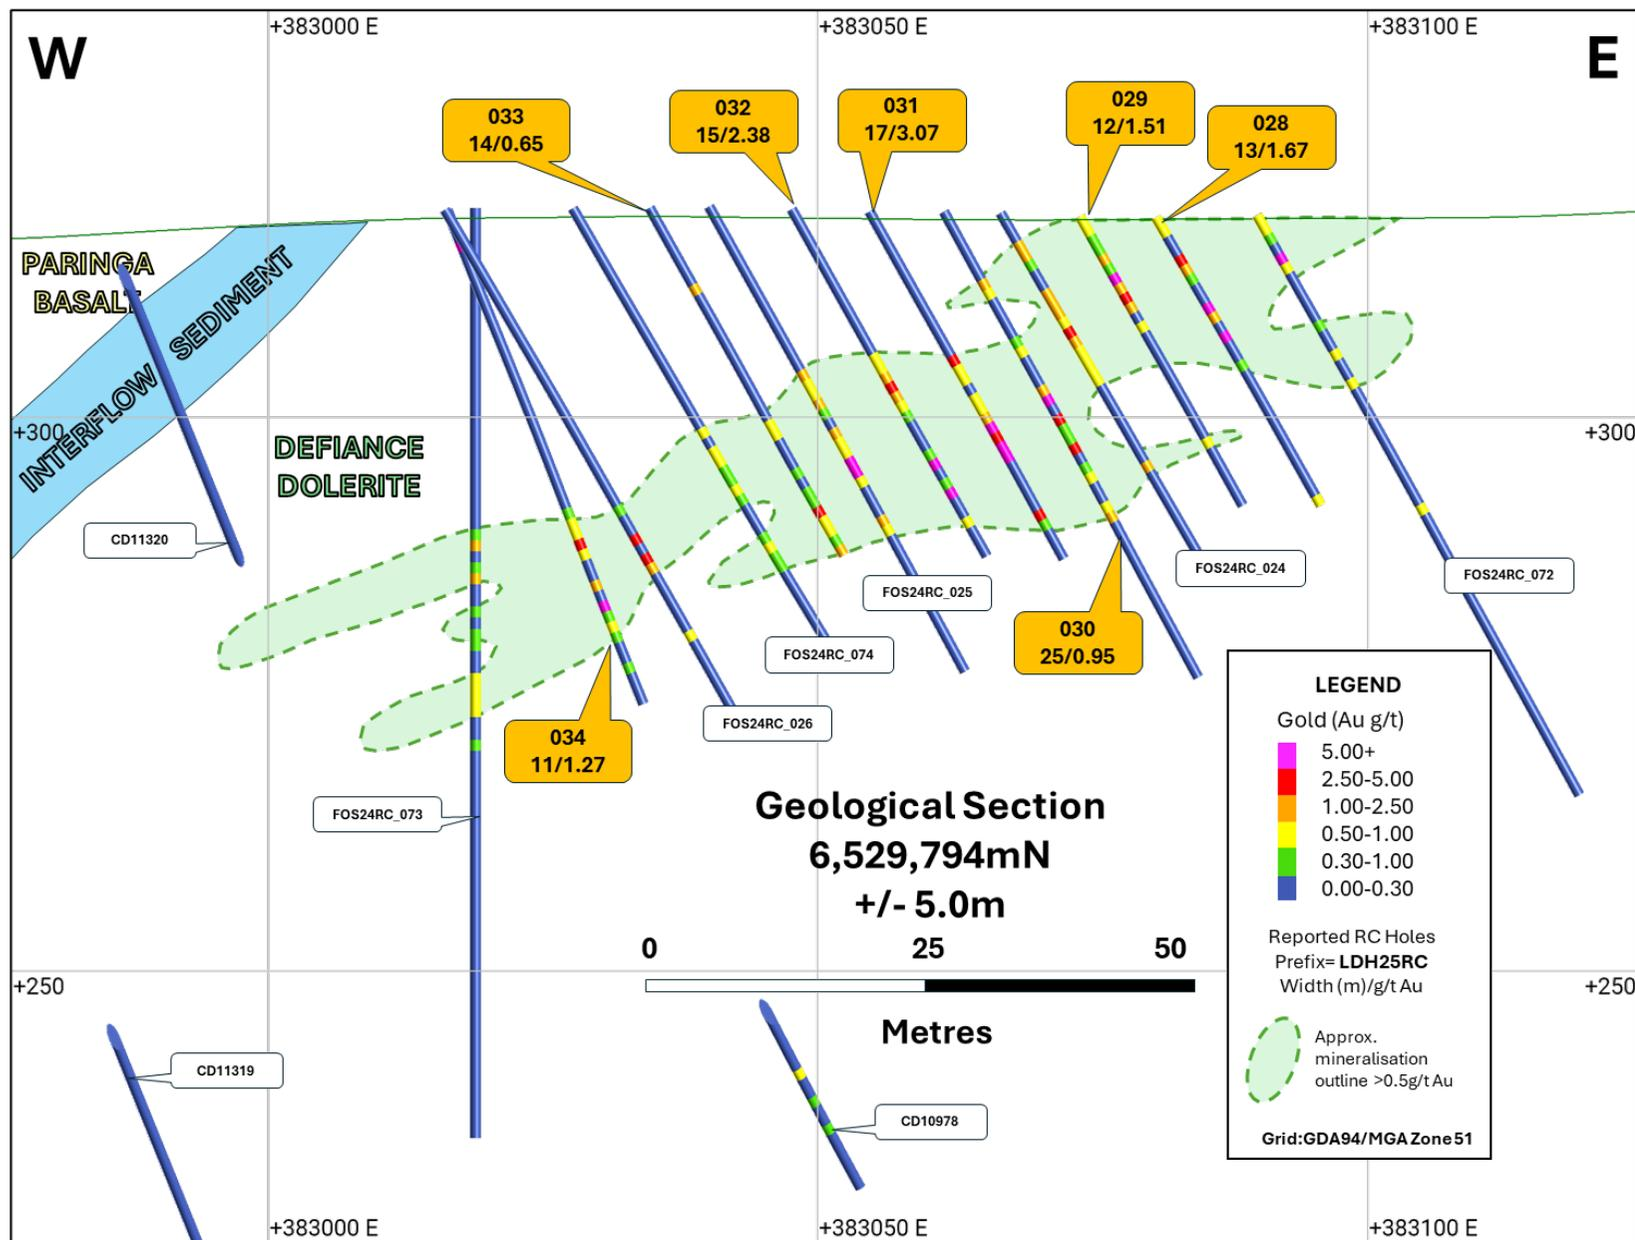
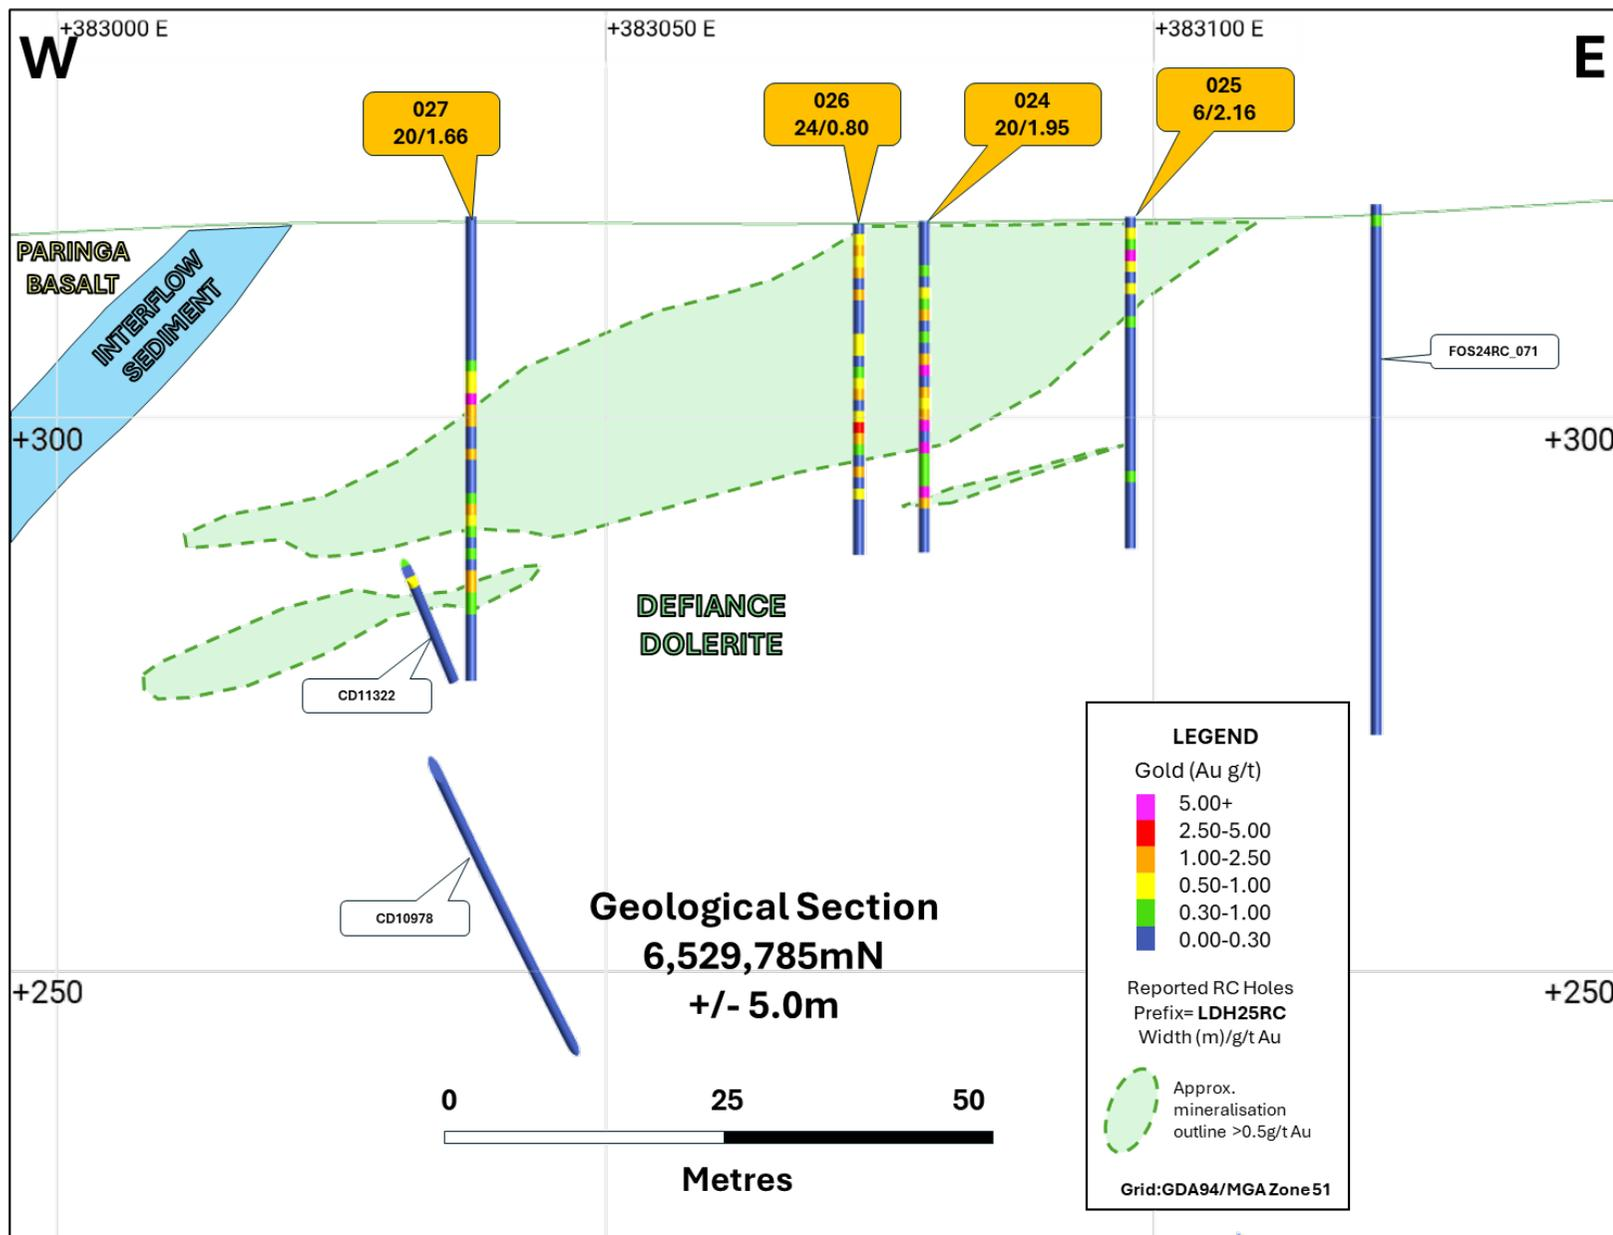
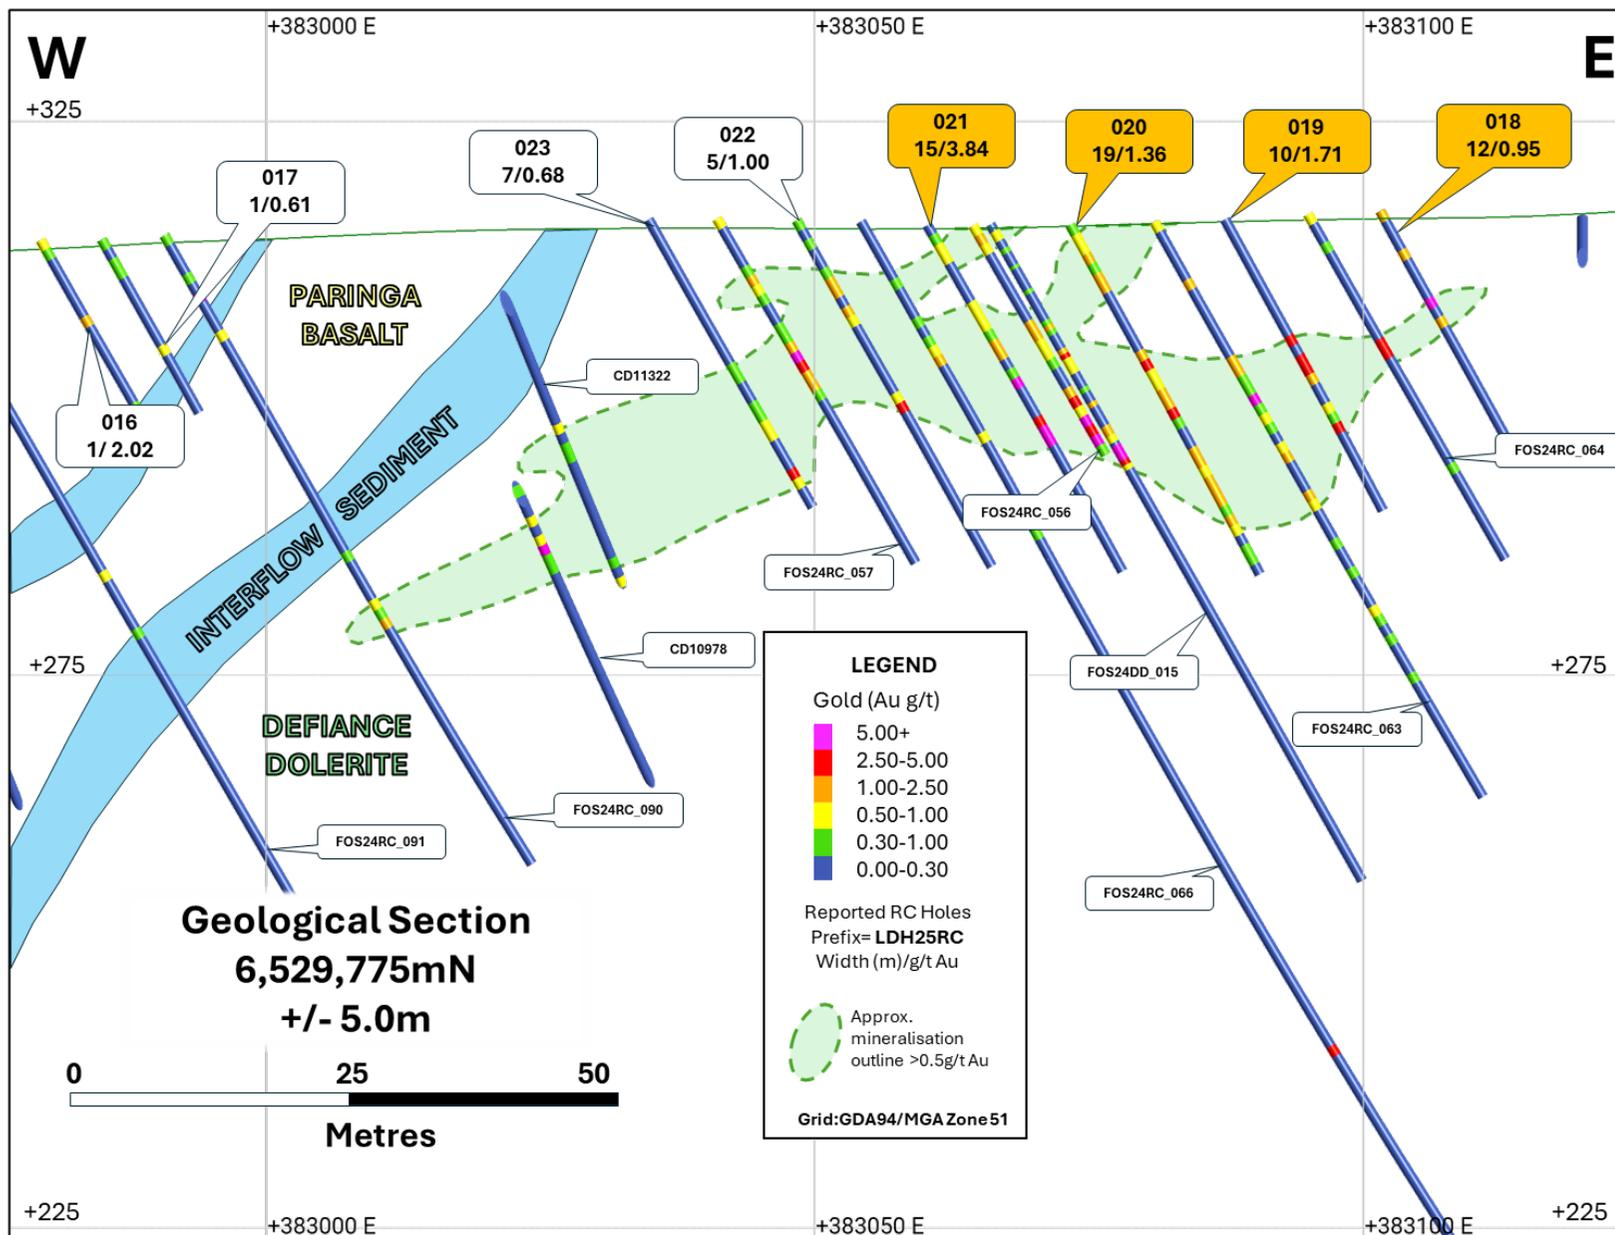

Figure 3: Geological cross section 6,529,794mN
Figure 4: Geological cross section 6,529,785mN
Figure 5: Geological cross section 6,529,775mN
**Figure 1** below illustrates a plan view at the deposit and drill program scale. Due to the close spaced drilling, it is not possible to display all significant intercepts on the same plan view due to the overlapping nature and broad widths of gold mineralisation encountered. Accordingly cross sections are provided in **Figures 3** through **7** to depict the program results more clearly.
In summary, drill results on sections 6,529,794mN (**Figure 3**), 6,529,785mN (**Figure 4**) and 6,529,775mN (**Figure 5**) recorded thick, shallow, high-grade gold mineralisation supporting, and therefore providing great confidence in, the appropriateness of the current geological interpretation.